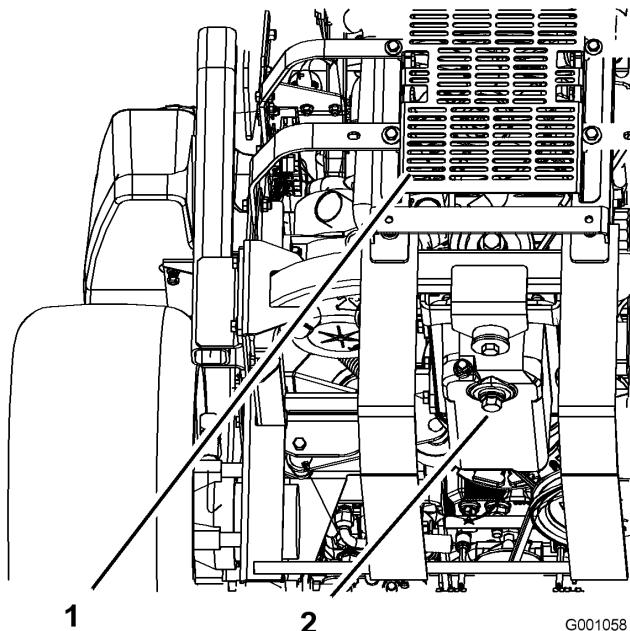

Figure 31
5. Place a pan below the oil drain. Remove the drain plug and let the oil drain completely (Figure 31).